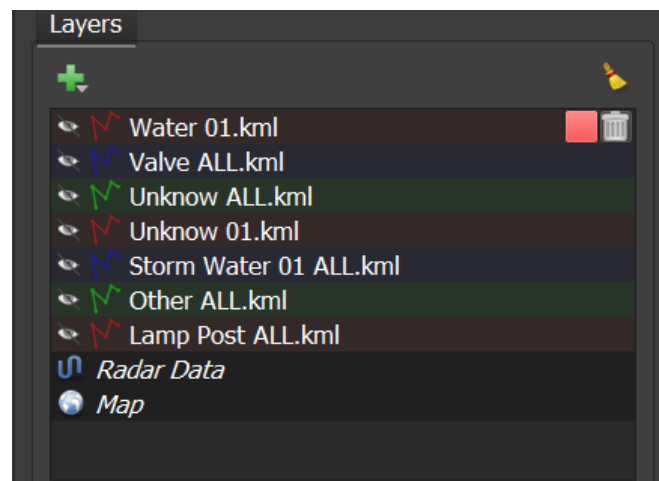

Fig. 44 Layers list
- Layers added shall be listed as shown in Fig. 44 and they can be hidden or shown by using the  icon.